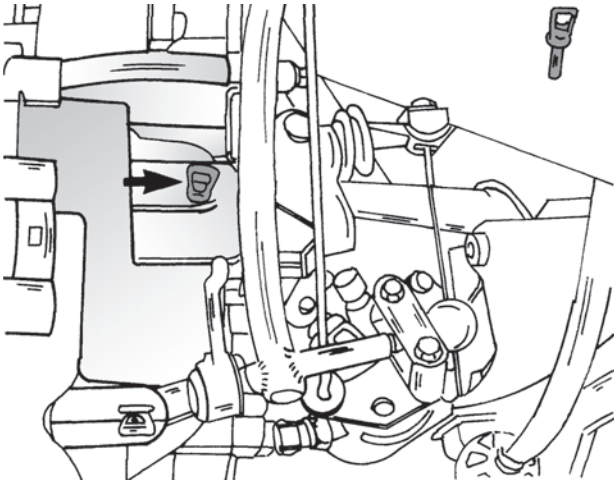

Fig. 1.6. - Unscrew the plug at the position shown from the transmission and secure the clutch release lever by inserting an M8 x 22 mm bolt.
- Remove the rubber plug from the hole in the transmission, shown by the arrow in Fig. 1.6, and secure the clutch release lever with a pin. The illustration shows the special pin used by VW workshops (top right), but an M8 x 22 mm bolt will do.